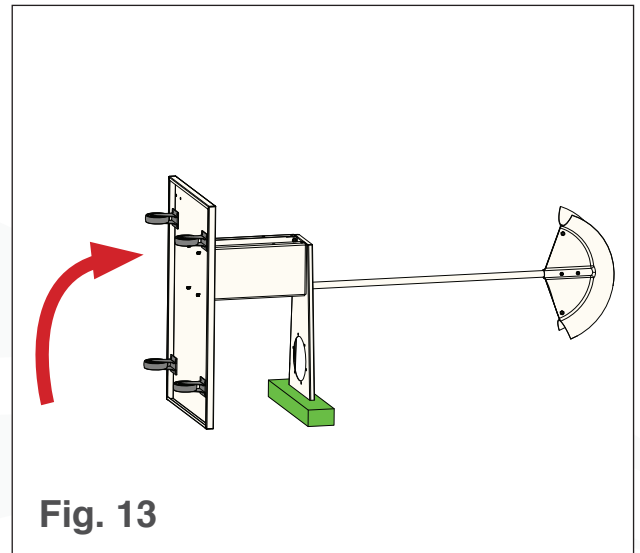

Fig. 13
2. Place a piece of foam packaging over the wide end of the lid holder, then rotate the Trim Saver 90° so it rests on the foam (see Fig. 13).